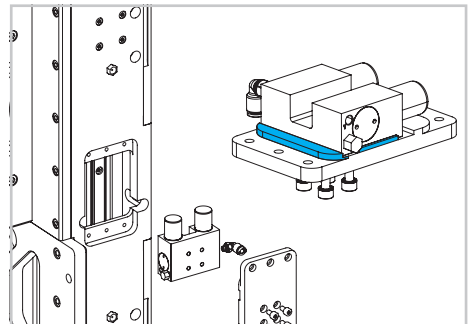

Fig. 23
- 2) Assemble the clamp/brake on the plate taking care about the right orientation as shown in the picture. Before tightening completely the screws push the clamp/brake against the reference sides on the plate. Assemble the air plug on the clamp/brake as shown in the picture (see Fig. 23).